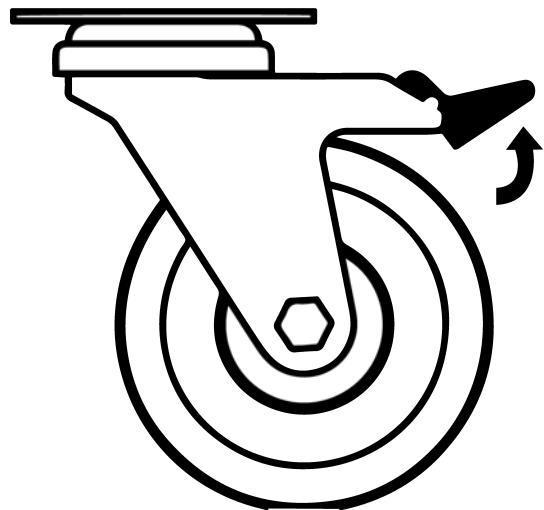

Fig 2. Castor Unlocked
- Ensure when placing the blanket warmer into place that the castors can be accessed so they can be locked (**Fig 3**) and unlocked (**Fig 2**). Please contact your supplier or Thermoline should there be any damage to the castors.